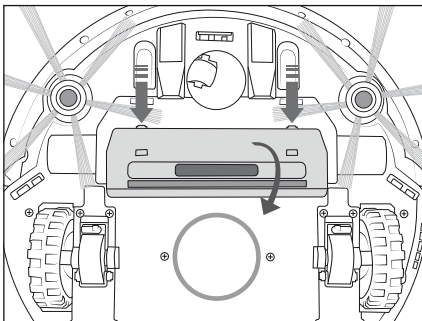

Fig. 12
- 1) Press on the two release buttons to release the cover **20** of the suction opening **19** and take it off the appliance (see Fig. 12).